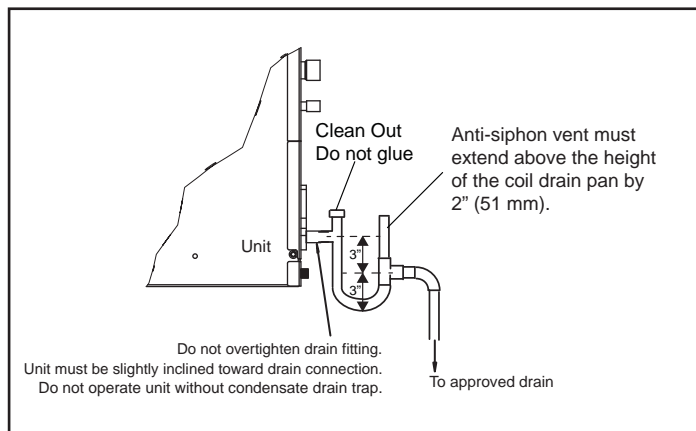

Figure 4. Condensate Drain Trap
5. Install a 3" trap in the main (primary) drain lines as close to the unit as practical (see figure 4). Make sure the top of the trap is below the connection to the drain pan to allow complete drainage of the pan.
NOTE - Horizontal runs must have an anti-siphon air vent (standpipe) installed ahead of the horizontal run. See figure 4. An extremely long horizontal run may require an oversized drain line to eliminate air traps.